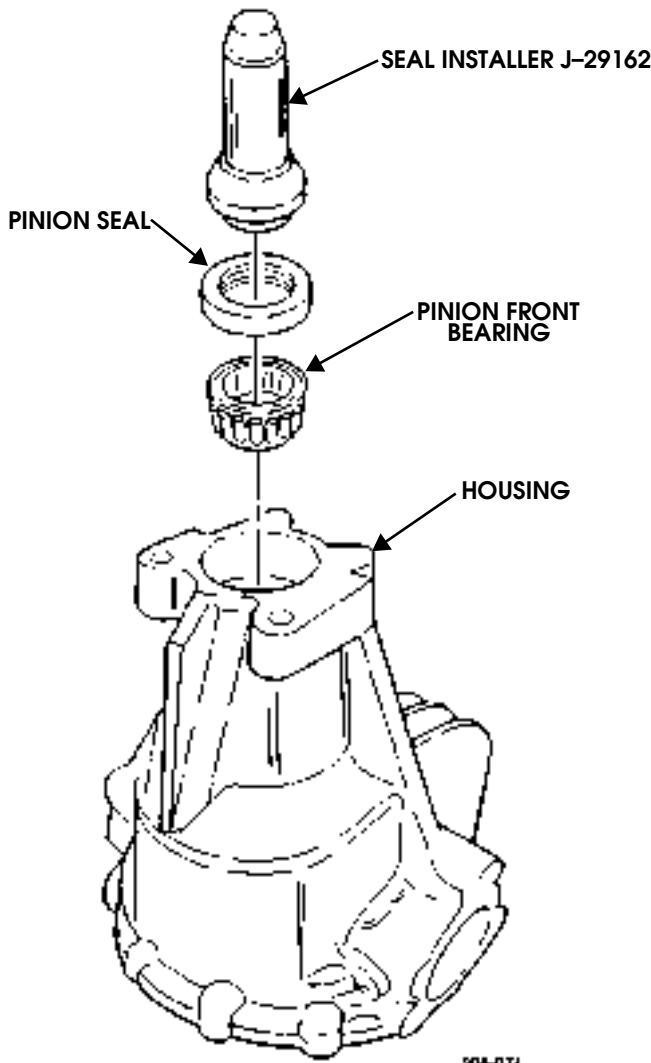

Figure 9-89: Pinion Seal Installation
22. Lubricate pinion front bearing and pinion seal with gear oil. Using yoke seal installer, install pinion front bearing and pinion seal in housing (Figure 9-89).